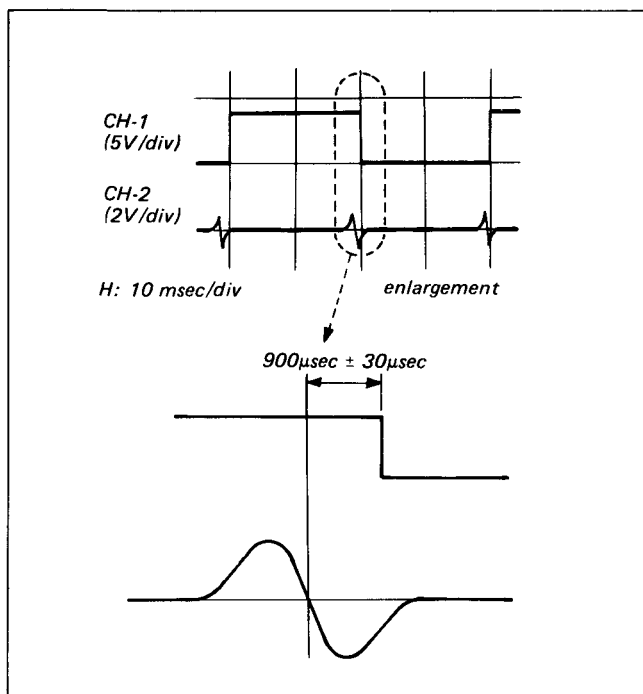

Fig. 5-9. RF switching position adjustment (2)
- ii) Change connection of CH-2 only to Pin ③② of IC301.
- iii) Adjust to $900 \mu\text{sec} \pm 30 \mu\text{sec}$ with RV301. (See Fig. 5-9.)